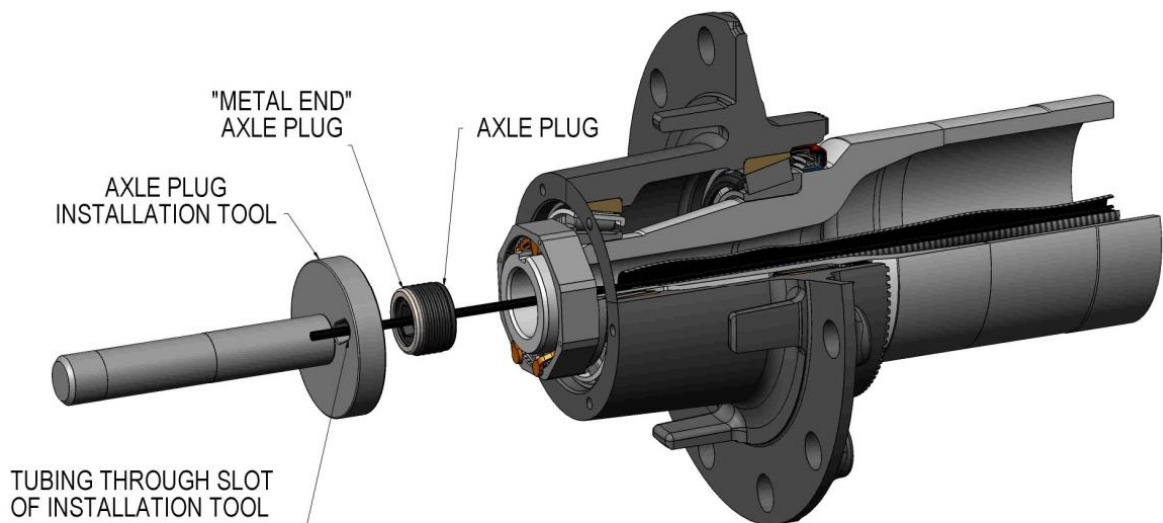

Figure 14
- Using a tubing cutter square the end of the air line coming out of the axle after removing the masking tape. Leave 5-6" of tubing sticking out of the spindle for easier installation of the Aeris hubcap. See Figure 14